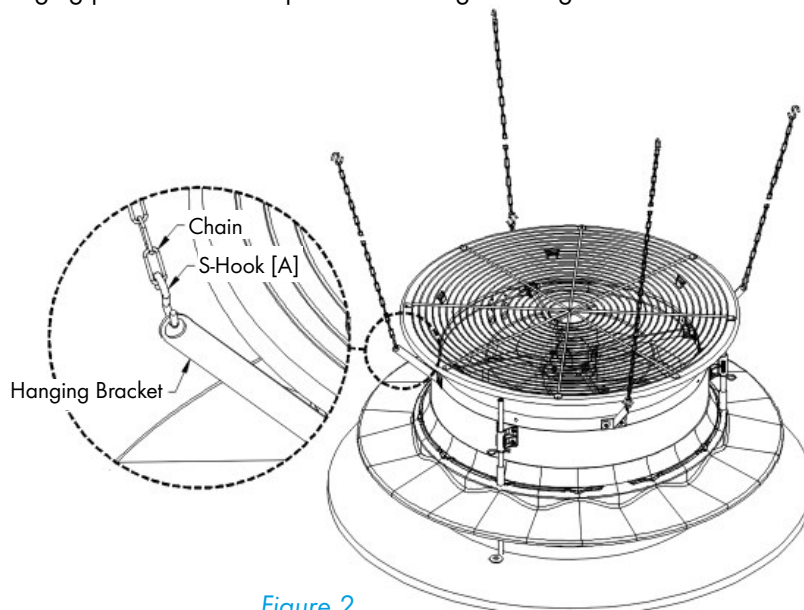

Figure 2
Hang Fan Assembly from each Hanging Bracket to 4 separate points on ceiling or truss using (8) S-Hooks [A] and (4) Chains. See Figure 2. Chains must not run straight up, but should be at a slight angle. Hanging points must be capable of holding the weight of the Fan Assembly (200 lbs. [90 Kg]).